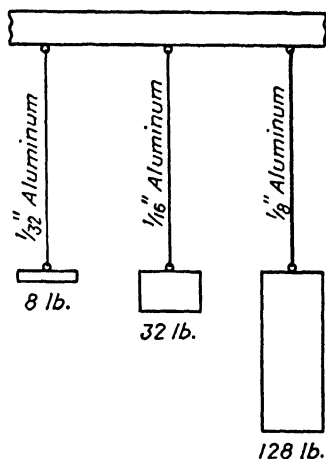

Fig. 208.
**B. Demonstration 2.** Take three wires, all aluminum, of these diameters:  $\frac{1}{32}$  in.,  $\frac{1}{16}$  in.,  $\frac{1}{8}$  in., and suspend them as shown in Fig. 208.
Notice that the greater the diameter of the wire, the greater is its tensile strength. Using the data in Fig. 208, complete the following table in your own notebook.